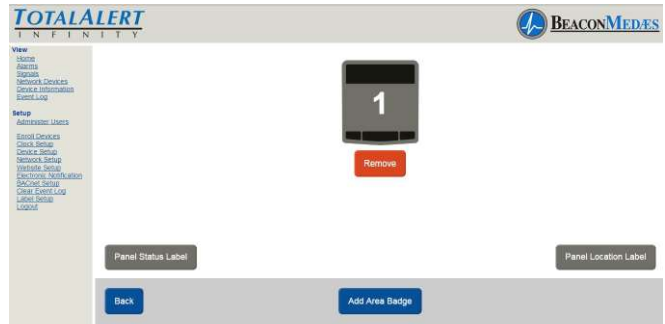

Figure 236
2. Setup display is similar to what is displayed on the alarm home screen. (See Figure 236). To Setup panel status label, select “Panel Status Label” button.